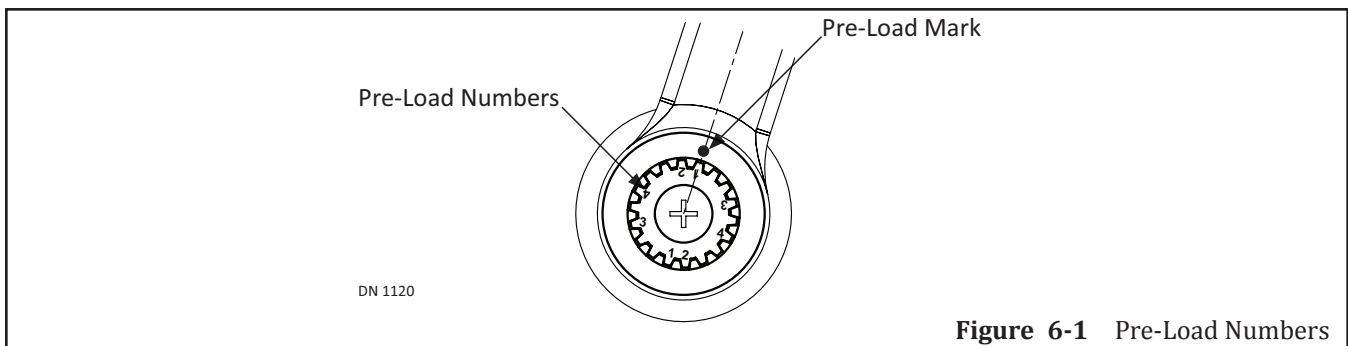

Figure 6-1 Pre-Load Numbers
1. Locate pre-load numbers 1-4 on the Bottom of the Operator Spindle. Please see Figure 6-1.